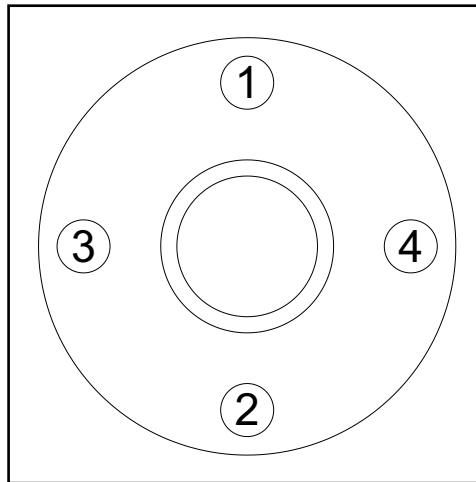

Figure 76: Holder Top View - Bolt Tightening Order
6. Using a torque wrench, tighten the four upper bolts to 15 ft-lb in the order shown in *Figure 76* below. Then, tighten the four bolts to 30 ft-lb in the same order shown in *Figure 76* below.
9. Align the flange holes of sensor flange with the tapped holes in the holder. Apply anti-seize lubricant to the flange bolts, install 3/8" lock washers and loosely bolt the flange to the holder. Using a torque wrench, tighten the four bolts to 15 ft-lb in the order shown in *Figure 76 on page 95*. Then, tighten the four bolts to 30 ft-lb in the same order shown in *Figure 76 on page 95*.